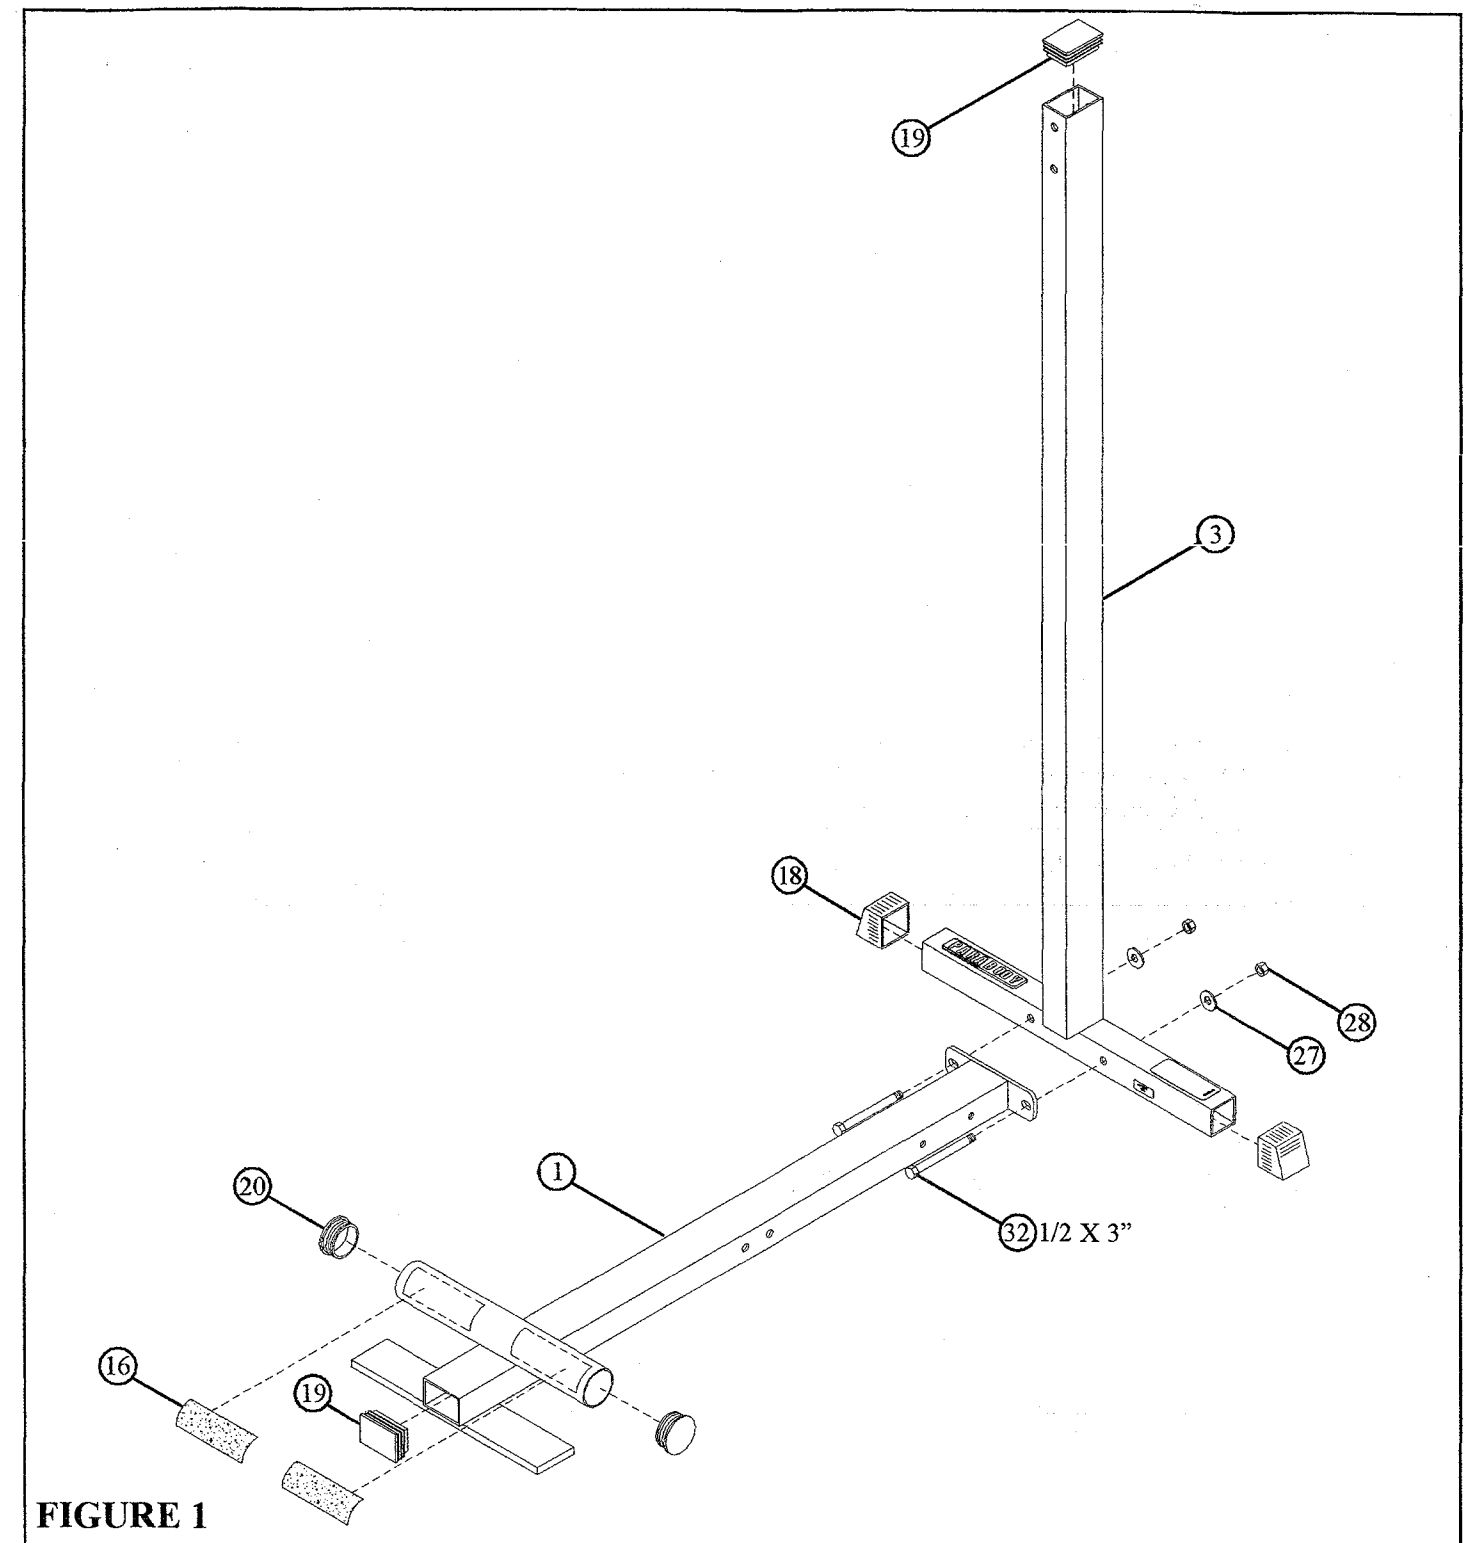

**FIGURE 9**
- Securely assemble the ball end of the CABLE (12) and two 3-1/2" PULLEYS (14) to the FRONT UPRIGHT (2) using four 3/8 X 2-3/4" BOLTS (30), four 3/8" FLANGE SPACERS (34), four 3/8" WASHERS (25), and four 3/8" LOCKNUTS (26). (**NOTE:** The CABLE (12) should be routed between the pulley and the retaining bolts as shown in FIGURE 9.)